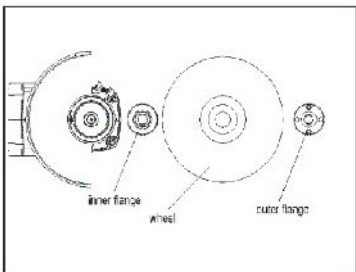

Fig3
1. Mount the inner flange onto the spindle, Fit the wheel/disc on the inner flange and screw the outer flange onto the spindle (Fig 3).